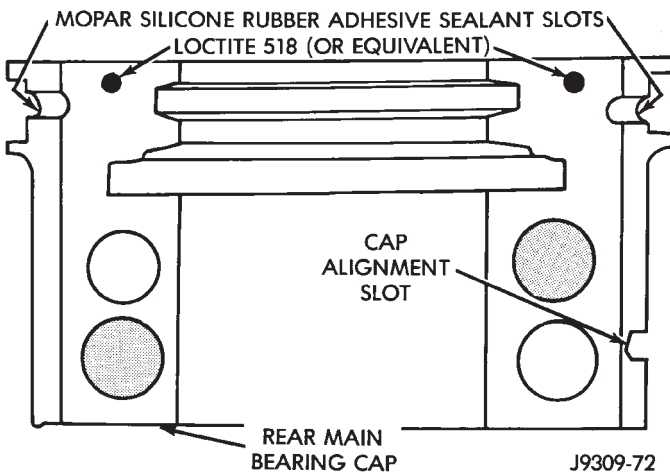

Fig. 41 Sealant Application to Bearing Cap
- (3) Position the crankshaft into the cylinder block.
- (4) Lightly oil the new lower seal lips with engine oil.
- (5) Install the new lower rear bearing oil seal into the bearing cap with the white paint facing towards the rear of the engine.
- (6) Apply 5 mm (0.20 in) drop of Loctite 518, or equivalent, on each side of the rear main bearing cap (Fig. 41). DO NOT over apply sealant or allow the sealant to contact the rubber seal. Assemble bearing cap to cylinder block immediately after sealant application.